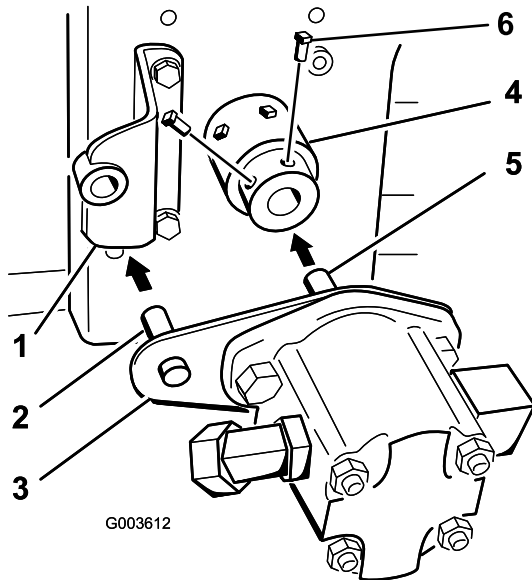

Figure 20
9. Install the pump plate stud into the pump bracket while installing the hydraulic pump shaft into the hub assembly. The hydraulic pump shaft will touch the end of the engine PTO shaft (Figure 20).
11. Apply blue Loctite® to the 2 set screws (5/16 x 3/4 inch) and install them into the hub assembly to secure the hydraulic pump shaft (Figure 20).